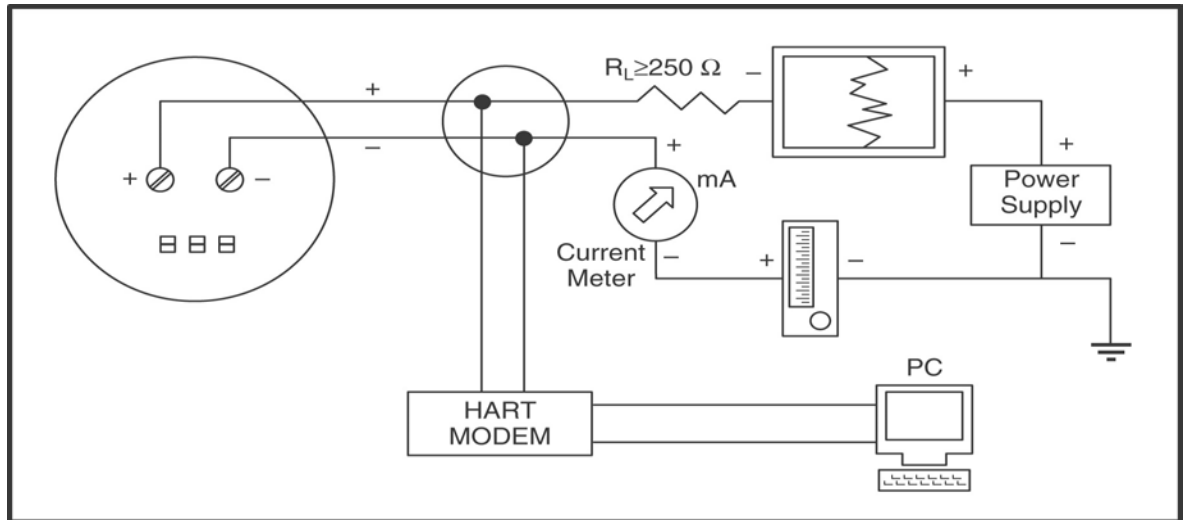

Figure 9.1 Connecting the HART Communicator to a Transmitter Loop.
The HART Modem can interface with a transmitter from any wiring termination point in the current output loop. To interface the Modem to your PC, connect the Modem with the appropriate connectors in parallel with the instrument or load resistor. All connections are non-polarized. See Figure 9.1.
**Note:** Please note the  $R_L$  resistor noted in Figure 9.1. For the HART Communicator to function properly, a minimum of 250 Ohms **must** be present in the loop. The HART Communicator does not measure loop current directly.